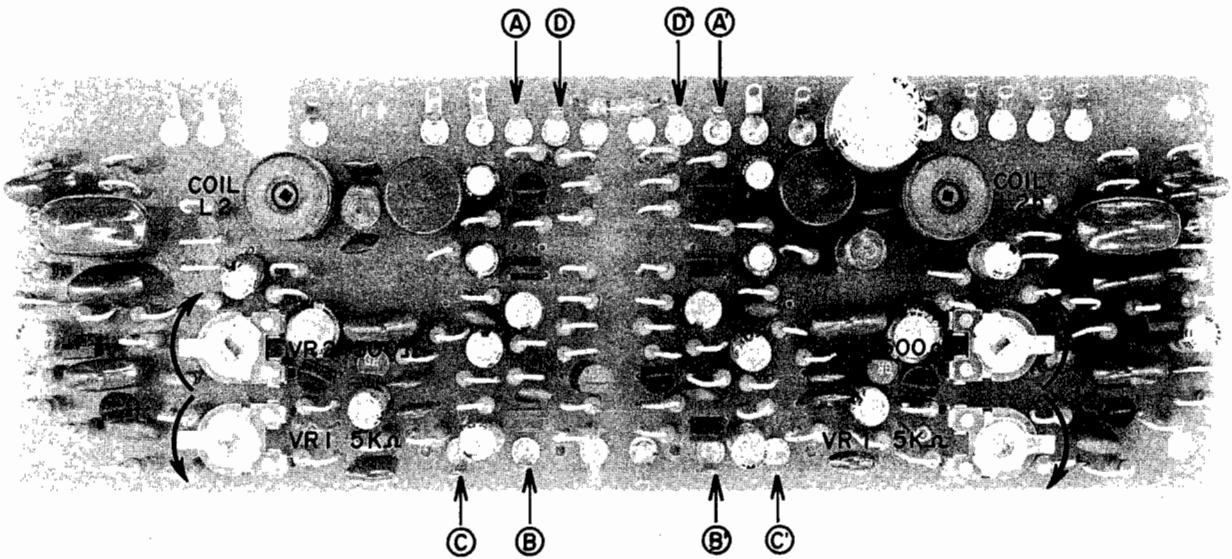

Fig. 25 Dolby N.R. P.C. Board CP-5003 (Face Side)
(Refer to Figs. 25 and 26)
- b) Turn Dolby N.R. P.C. Board (CP-5003) gain adjustment semi-fixed resistors VR2 500B (left channel) and VR2b 500B (right channel) as well as FET gate bias adjustment semi-fixed resistors VR1 5 kB (left channel) and VR1b 5 kB (right channel) as far as they will go in the direction of the arrows shown in Fig. 25.
- g) At this condition, further adjust the Attenuator so that the line output level at point ① in Fig. 25 is -28.5 dB. (This adjustment must be exactly -28.5 dB) and confirm that the level at point ② is -28.5 ± 0.5 dB.
- h) Next, turn Dolby N.R. Switch SW20 to ON position. Adjust Dolby N.R. P.C. Board gain adjustment semi-fixed resistors VR2 500B (left channel) and VR2b 500B (right channel) until the voltage at point ② in Fig. 25 is increased by 10 dB.
- i) Disconnect GND (ground) from FET gate. Adjust FET gate bias volumes VR1 5 kB (left channel) and VR1b 5 kB (right channel) until the voltage at point ② is reduced by 2 dB.